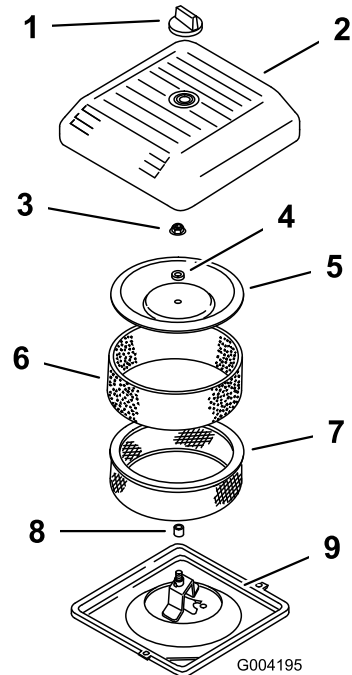

Figure 18
1. Unscrew the knob and remove the air cleaner cover (Figure 18).
7. Carefully slide the foam pre-filter onto the paper filter (Figure 18).
8. Install the air cleaner cover and secure it with the knob (Figure 18).
1. Carefully slide the foam pre-filter onto the paper filter (Figure 18).